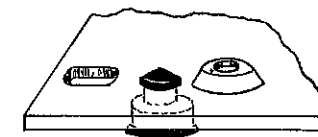

Figure 21
- ( ) Observe Figure 21 and install the four rubber feet in the four large holes provided in the bottom cover. Insert from the painted side of the cover.